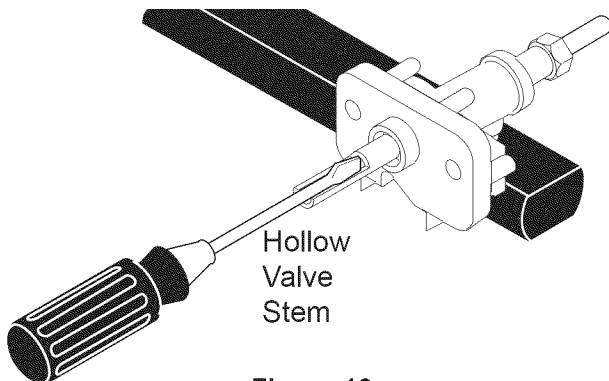

Figure 13
- Insert a thin-bladed screwdriver into the hollow valve stem and engage the slotted screw inside. Flame size can be increased or decreased with the turn of screw. Turn counterclockwise to increase flame size. Turn clockwise to decrease flame size (Figure 13). Adjust flame until you can quickly turn knob from LITE to lowest position without extinguishing the flame. Flame should be as small as possible without extinguishing.